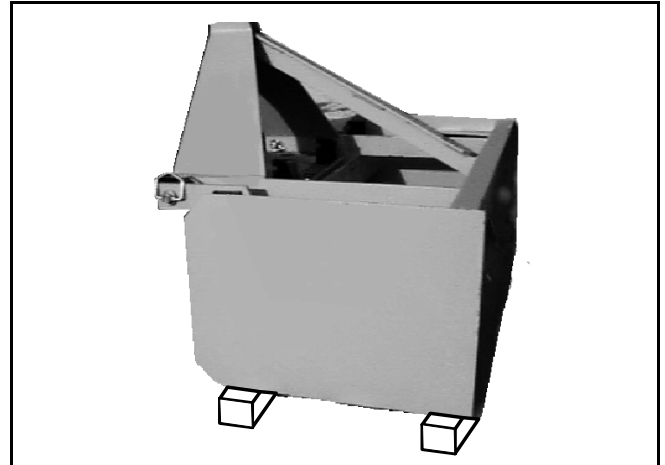

Figure 3. Box Blade Blocked Up
Refer to Figure 3, page 14 and block up box blade securely.
1. Place two 4" x 4" (10 cm x 10 cm) blocks under each side frame of the box blade as shown in Figure 3.
1. Block up machine (see Figure 3).
To service the box blade when attached to the tractor, it must be blocked up off the ground (see Figure 3).